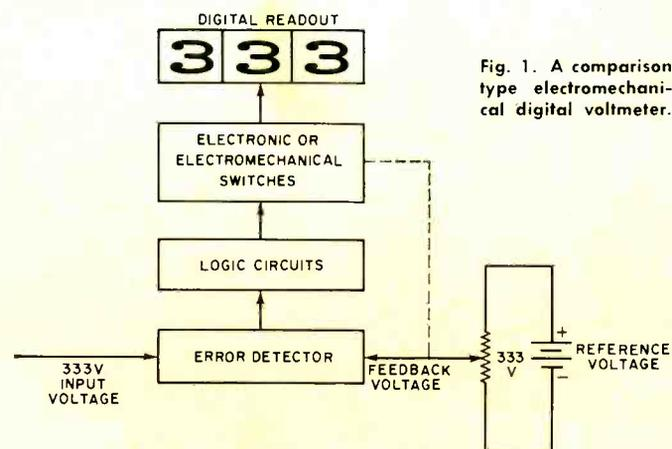

Fig. 1. A comparison type electromechanical digital voltmeter.
**Stepping-Switch Type.** These instruments are comparison-type meters in which a stepping-switch-operated voltage divider creates a feedback voltage equal to the input voltage. As shown in Fig. 1, the comparison-type digital voltmeter measures by comparing the unknown voltage to a variable known voltage (feedback voltage) and then varying the feedback voltage until it equals the unknown, that is,